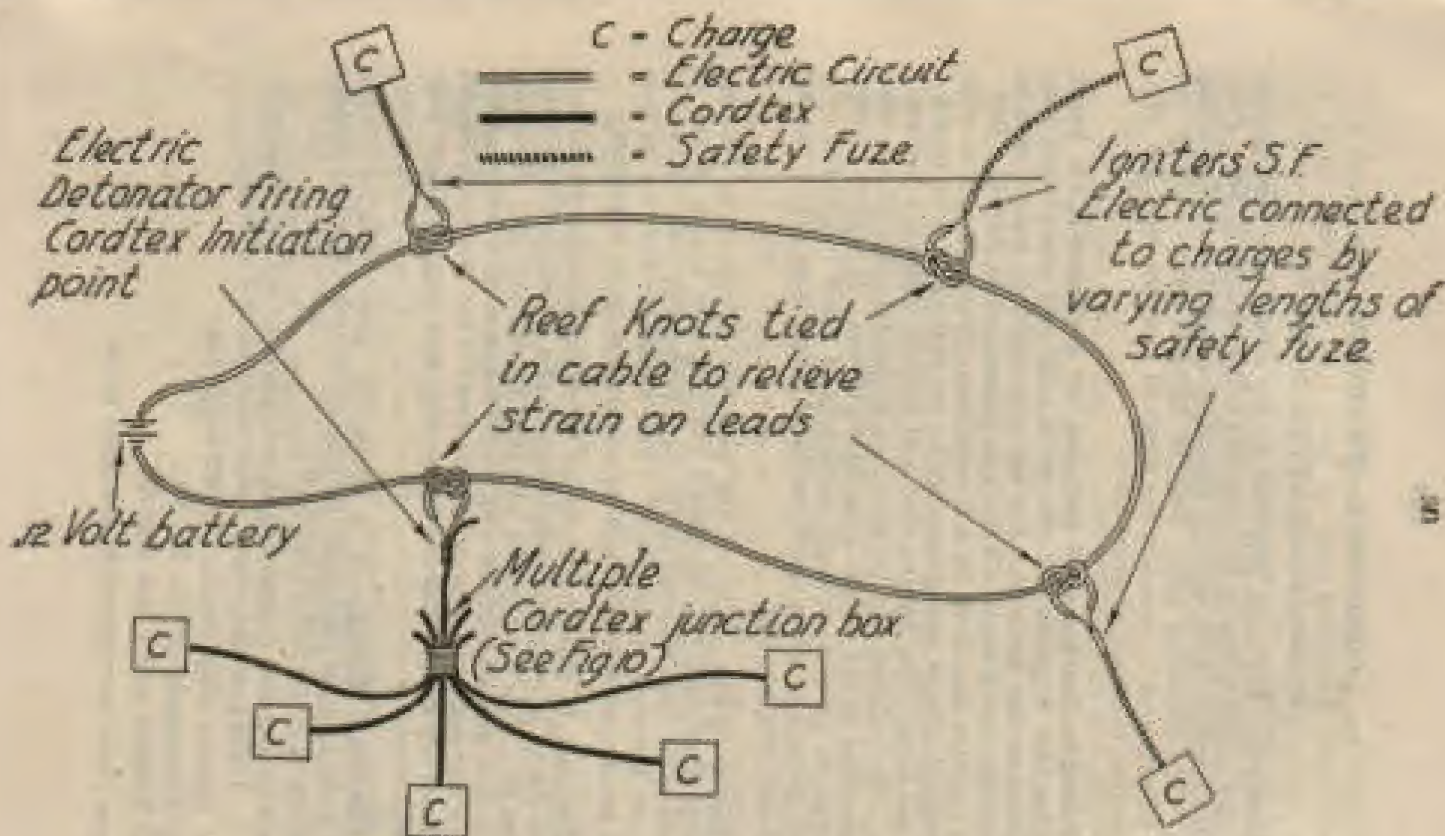

Fig 20. Diagrammatic layout of electrical circuit for battle noises
e. Detonator electric No. 33.—This consists of a No. 27 detonator (see Sec 5) with an electric firing head on the top. When an electric current of sufficient strength is passed through the head a flash occurs which fires the detonator. A fully charged battery will produce sufficient current to fire a certain number of detonators connected in series with the battery through a given length of cable. The term "in series" means that the detonators are connected up by lengths of cable, the circuit starting at one terminal of the battery, passing through each detonator in turn and finishing at the other terminal (see Fig 20). Table 3 shows the number of No. 33 detonators or igniters which can be fired by standard 6- and 12-volt batteries through different lengths of cable, assuming batteries FULLY CHARGED.